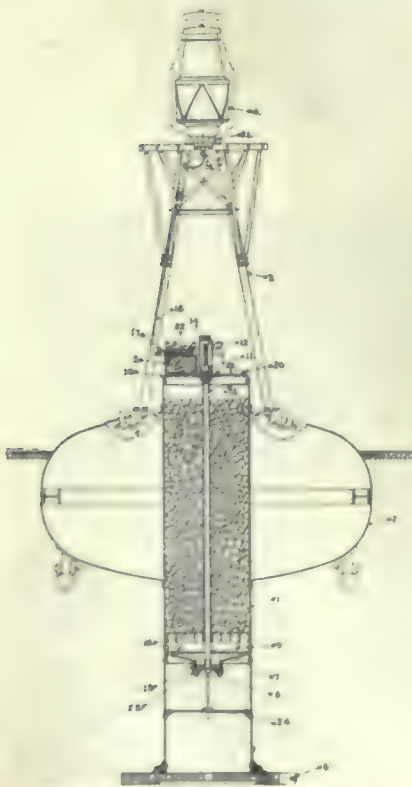

Fig. 6 Sectional view of buoy.
The buoy Fig. 6 consists of a gas generator tube of steel (1), supported by a steel float chamber (2), a lantern support (3), made of steel, and attached to
The generator (1) is filled with calcium carbide in large crystals, 8 in. by 4 in., as shown in Figure 6, and the buoy placed in the water with the valve (8) open, and the valve cap (14) screwed down. The water enters the generator tube through the hole shown in the centre of the counterweight (6), and passes through the valve up to the carbide resting upon the grate. The contact of the water with the carbide immediately produces gas, which passes up through the carbide, into the purifier chamber, where all impurities and dust are remov-